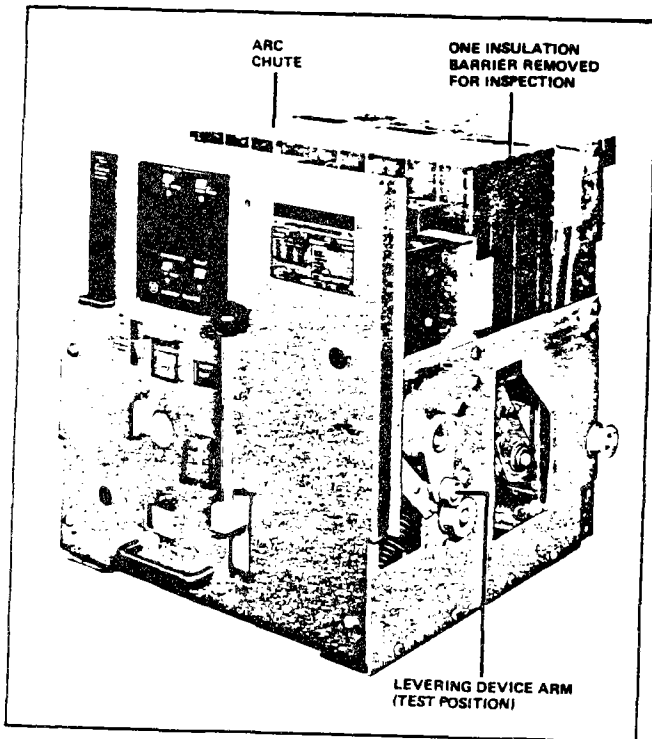
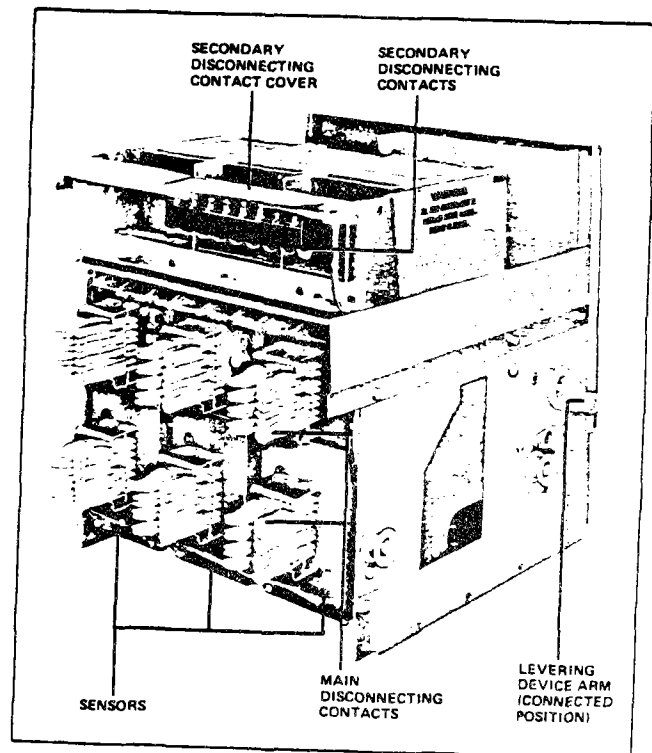

Fig. 7 Right Side Showing Levering Device Arm in TEST Position (391068)
Fig. 8 Rear View Showing Levering Device Arm in CONNECT Position (391067)
3. The TEST position, Figure 7.
4. The CONNECT position, Figure 8.
Continued rotation of the crank in the clockwise direction moves the arms downward to the vertical position, and the indicator will show "TEST" as in Figure 7. The shutter will rise.
Further clockwise rotation of the crank handle rotates the arms to the CONNECT position. This is about  $65^\circ$  from the test position, as shown in Figure 8. When this position is reached, the crank suddenly becomes hard to turn. At this point, stop turning the crank, as the worm shaft bottoms in the tapped hole of the stop nut.
2. The levering arms are in either the TEST position, as in Figure 7 or in the CONNECT position, Figure 8.